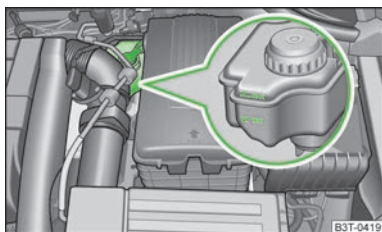

Fig. 144
- > Check the level of brake fluid in the reservoir » Fig. 144. The level must be between the "MIN" and "MAX" markings.